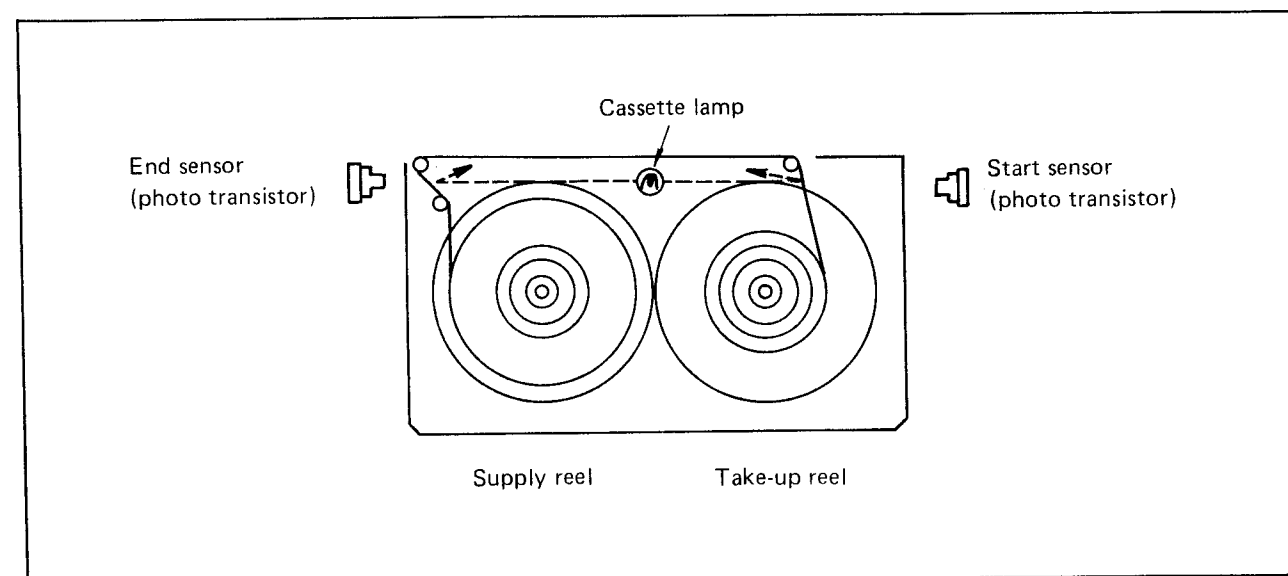

Fig. 2-4(c)
3. When the light beam is interrupted by the video tape as shown in Fig. 2-4(c), all modes are available by pressing the corresponding key.